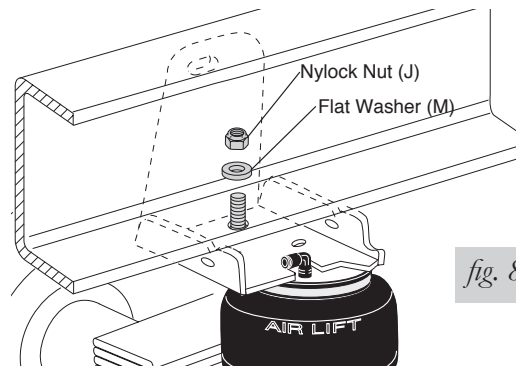

fig. 8
4. Install nut (J) and washer (M) on to the carriage bolt that was inserted through the jounce bumper bracket hole (Fig. 8).